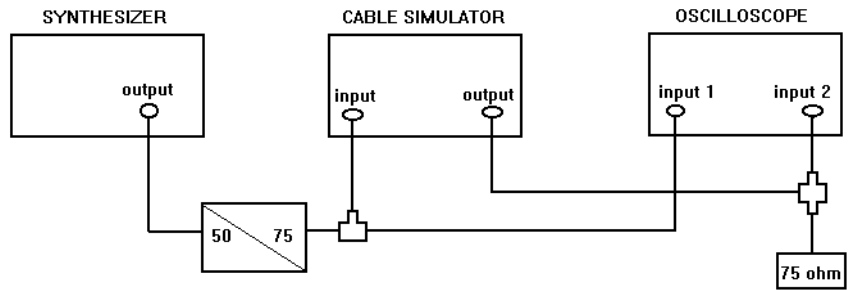

Figure 3-57 Monitor Input Test Setup
4. Connect the equipment as shown in Figure 3-57 below, but use the Balanced DS1 output and input ports on the HP 37717C connected via two 110/75 ohm bal to Unbal converters.
8. Connect a fixed 6dB Attenuator in the Additional Attenuation position of the circuit of Figure 3-57.
13. Connect a fixed 6dB Attenuator and a fixed 3dB Attenuator in the Additional Attenuation position of the circuit of Figure 3-57.